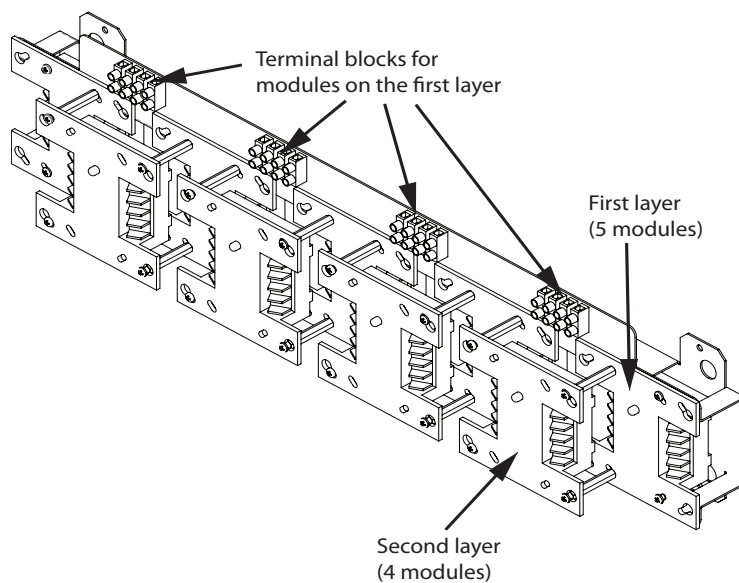

Figure 2 Bracket with 9 modules
The M500-BK9 Module Mounting Bracket holds up to 9 M500 series intelligent addressable modules which can be mounted in 2 layers. The first layer consists of 5 modules mounted to the bracket. The second layer consists of 4 modules mounted to standoffs. The terminal blocks provide an accessible field wiring location for 4 modules on the first layer. Refer to Figure 2.
3. Mount up to 4 modules to the standoffs using the included screws in the outer holes of the modules. Refer to Figure 2.